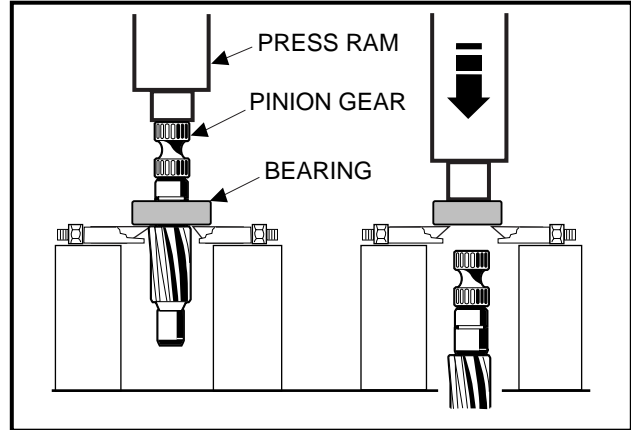
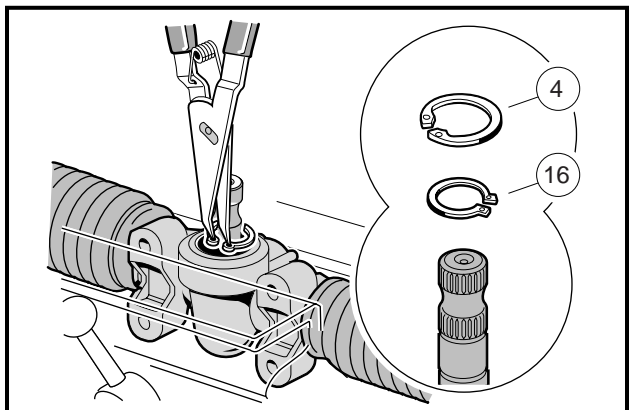

Figure 7-13 Remove Bearing from Pinion
Figure 7-15 Pinion Snap Rings
8. Using snap ring pliers, remove the snap ring (**Figure 7-15, Page 7-9**).
11. If the ball bearing (15) has been damaged, remove the c-type stop ring (16) (**Figure 7-15, Page 7-9**) and press the bearing off (**Figure 7-13, Page 7-9**).